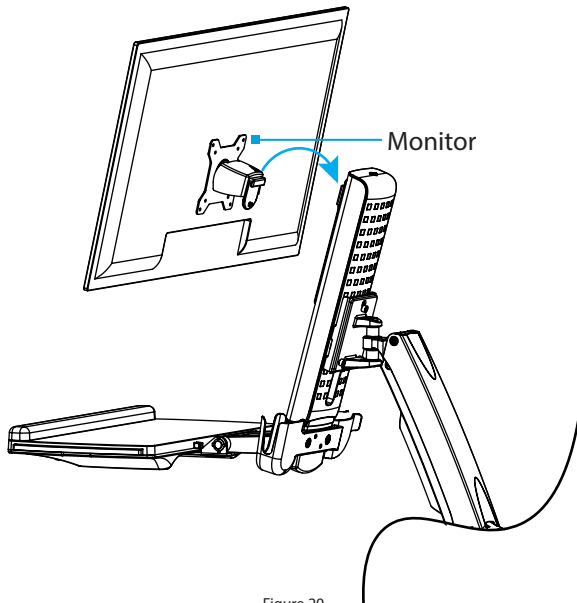

Figure 20
1. Hook the back of the **VESA Monitor Mount** onto the **Plate**, located on the **Column**. (Figure 20)